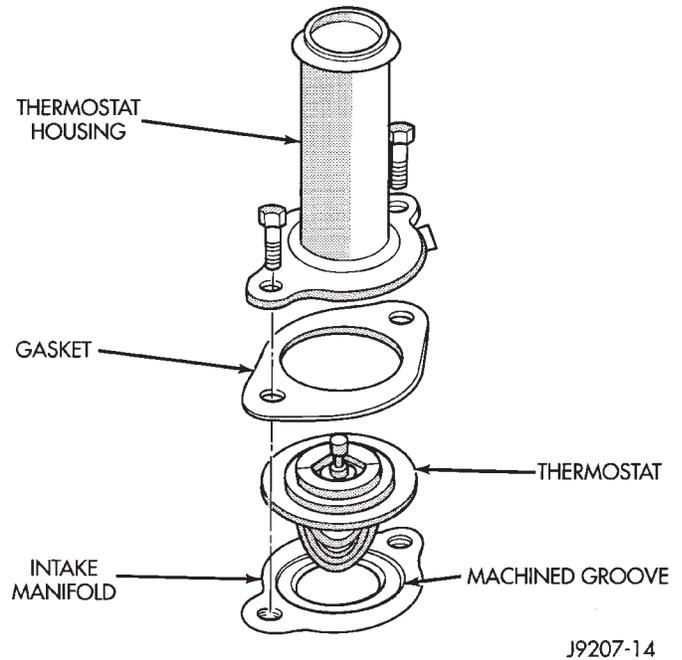

Fig. 42 Thermostat—5.2/5.9LEngines
- (6) Position wiring harness (behind thermostat housing) to gain access to thermostat housing.
- (7) Remove thermostat housing mounting bolts, thermostat housing, gasket and thermostat (Fig. 42). Discard old gasket.
- (1) Clean mating areas of intake manifold and thermostat housing.
- (2) Install thermostat (spring side down) into recessed machined groove on intake manifold (Fig. 42).
- (3) Install gasket on intake manifold and over thermostat (Fig. 42).